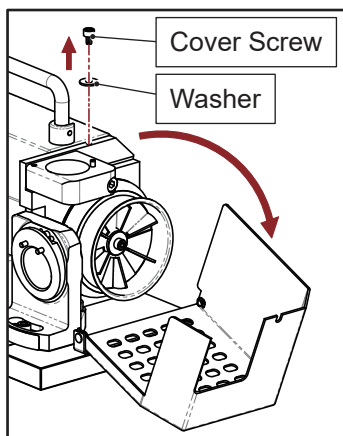

Fig. 9-2
③ Loosen the screw from the grinding wheel cover to open the cover. (Fig. 9-2)